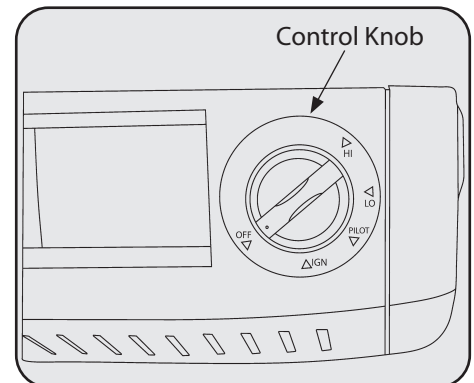

Figure 15
3. Push in gas control knob and slightly turn clockwise  to the OFF position See Figure 15.
4. Wait five (5) minutes to clear out any gas. Then smell for gas, including near the floor. If you smell gas, STOP! Follow "B" in the safety information above. If you do not smell gas, go to the next step.
5. Push in gas control knob slightly and turn counterclockwise  to PILOT/IGN and depress for five (5) seconds.